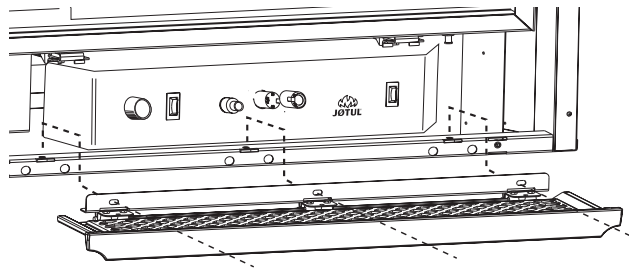

Figure 44. Install the Lower Grill / Control Door.
- Secure the hinges to the cabinet frame using the hex head screws provided in the hardware bag. fig. 44.